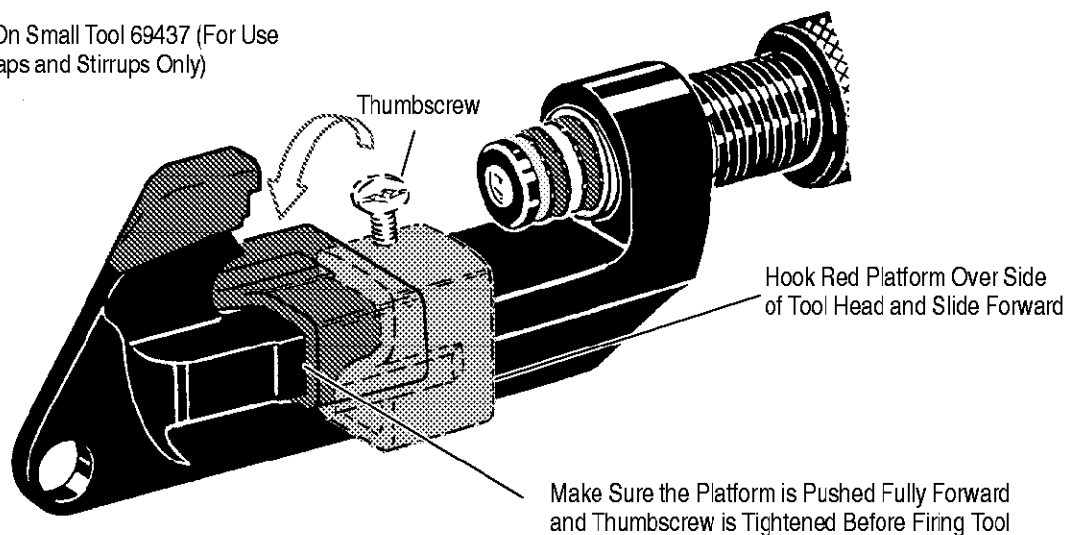

Figure 17
1. For red standard tap and stirrup applications only, install red platform on small tool 69437. Hook platform over side of head and slide platform forward until it butts against front of tool as shown in Figure 17. Tighten thumbscrew.